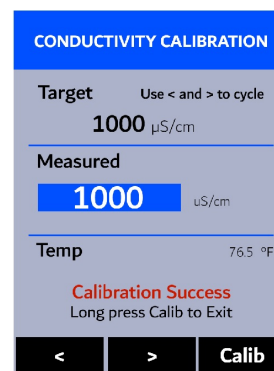

Figure 17.
10. The message “**Calibration Success**” will appear towards the bottom of the display (Figure 17).